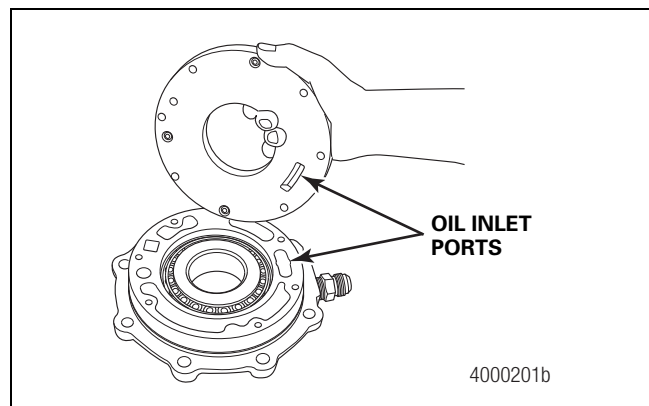

Figure 4.29
- B. Mark the position of the pump to the cage for reassembly. Figure 4.29.